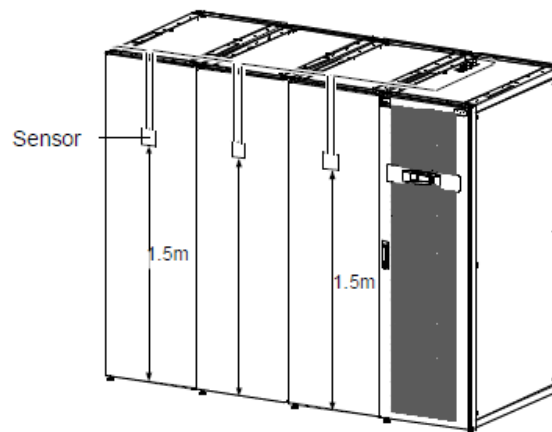

Figure 2-31 Arrangement of rack sensor
- The standard position of the sensor is the place that is at a height of 1.5m as shown in Figure 2-31 (in the figure, the sensors are also connected in a series).
- Therefore, the sensor must be placed at the position as shown in Figure 2-31 for it to work accurately; if not properly positioned, the equipment will not function effectively.